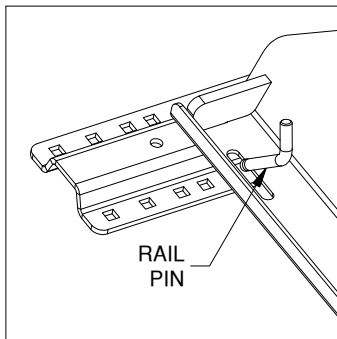

FIGURE B2:
2. Locate the 4 rail pins and hair pins. Insert each pin into the long slots in the base and through the rails. Lock each pin into place with a hair pin, see figure B2 & B3.